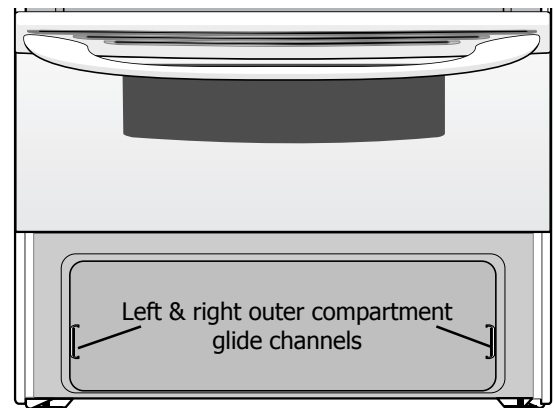

Fig. 2
2. Carefully line up both sides of the Keep Warm Drawer glide rails to the outer compartment glide channels located inside the empty drawer compartment (Refer to Fig. 2).